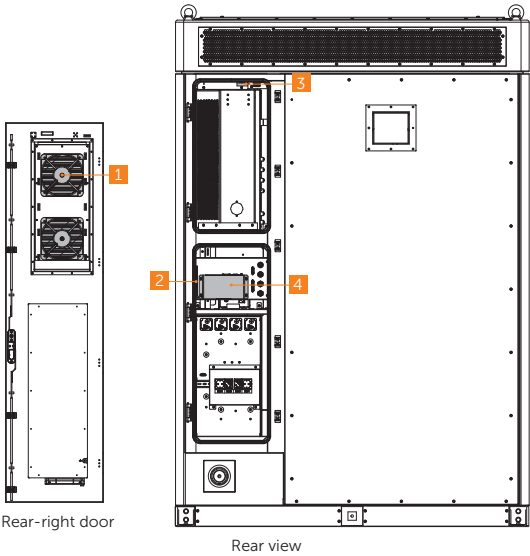

Figure 2-7 Parts description (in the opened state)
- The mark "*" indicates that parts in the front view (Figure 2-7) cannot be fully seen.